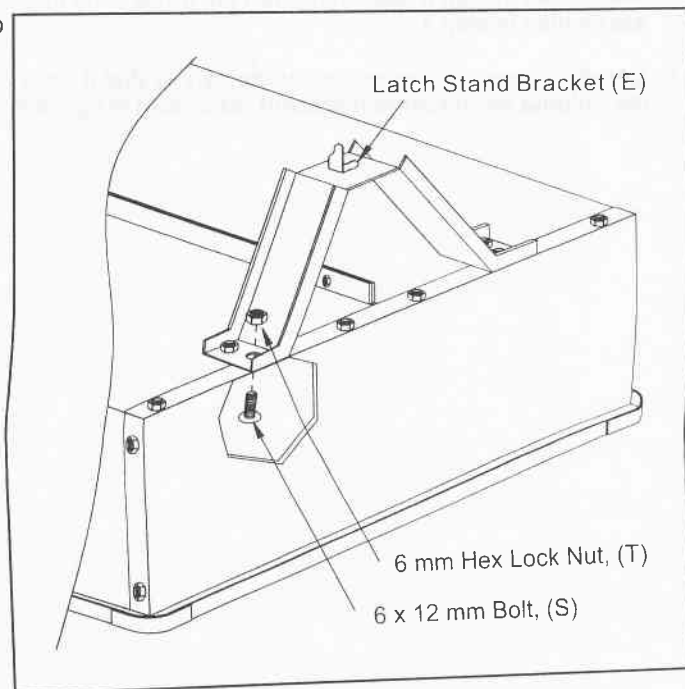

FIGURE 7
11. Turn the latch stand bracket (E) so that the aligning tab on the bottom is at the rear of the bracket. Assemble the latch stand bracket to the cart using four 6 x 14 mm bolts (S) and 6 mm hex lock nuts (T). See figure 7.